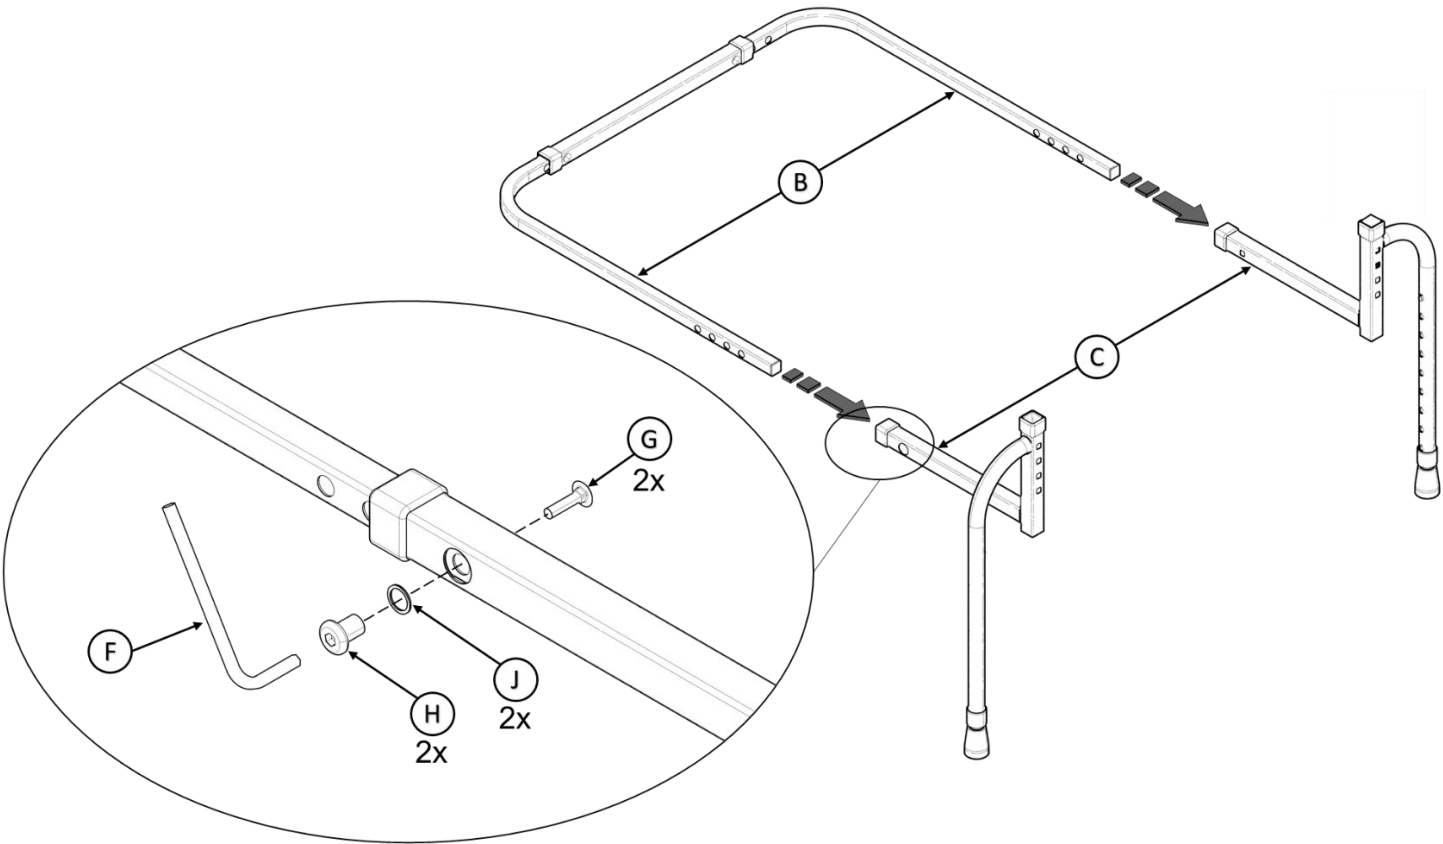

**FIGURE 3**
3. First determine chair or couch depth and insert **B** into **C** as shown in FIGURE 3. Align the appropriate holes and insert **G**, **J** and **H** and secure with **F**.